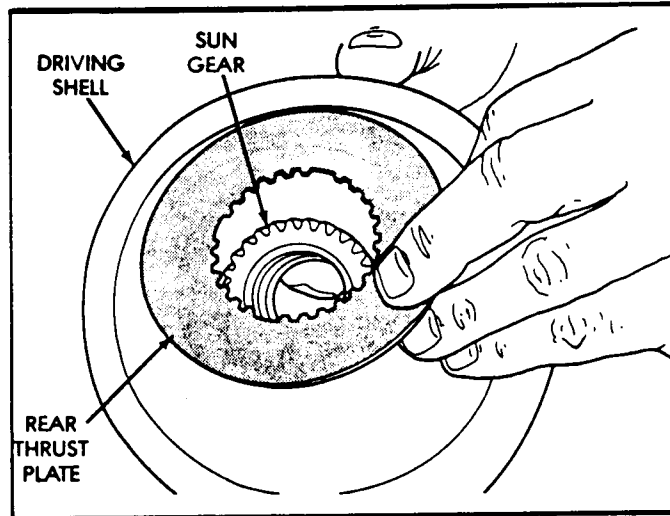

Figure 78
10. Insert sun gear into the driving shell, as shown in Figure 78, and install the rear thrust plate (See Figure 78).